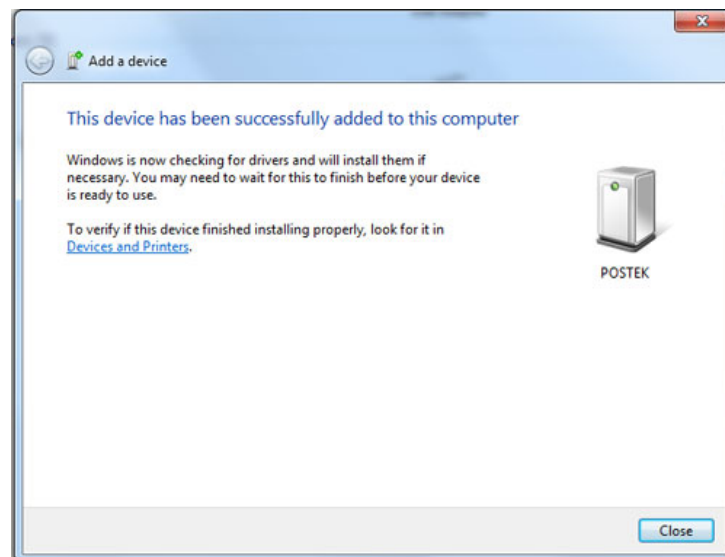

Figure 3-6
3. The POSTEK V6 Bluetooth device has now been added successfully, as shown in Figure 3-6.